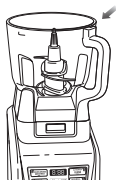

Fig. 4a
- 5 The bowl can be placed on the motor base two ways; the handle can be on the front right corner or the front left corner. (Fig. 4a, Fig. 4b)